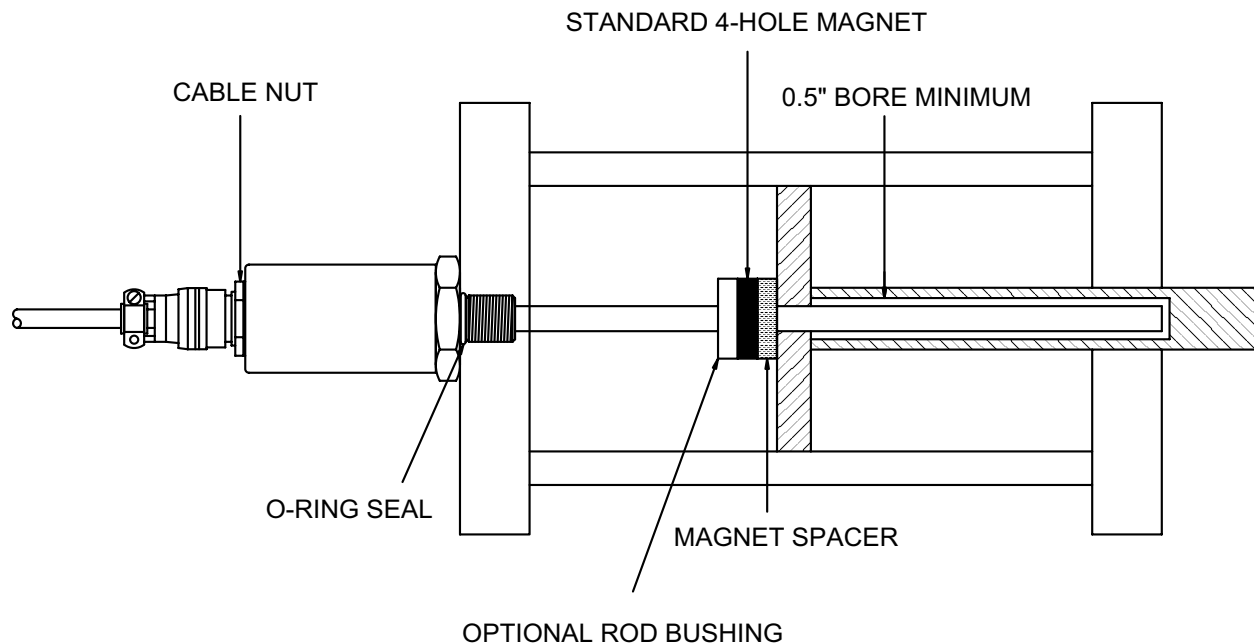

Figure 2-1 Mounting LDT in Hydraulic Cylinder
- A non-magnetic spacer must be used to separate the magnet assembly from the head of the piston rod. See Figure 2-1.
WARNING: Do not use the casing of the head assembly or cable nuts (either a 1 1/6" or 1 3/16" cable nut) to tighten the LDT within the bracket (see Figure 2-1). This may damage the LDT and will void your warranty.